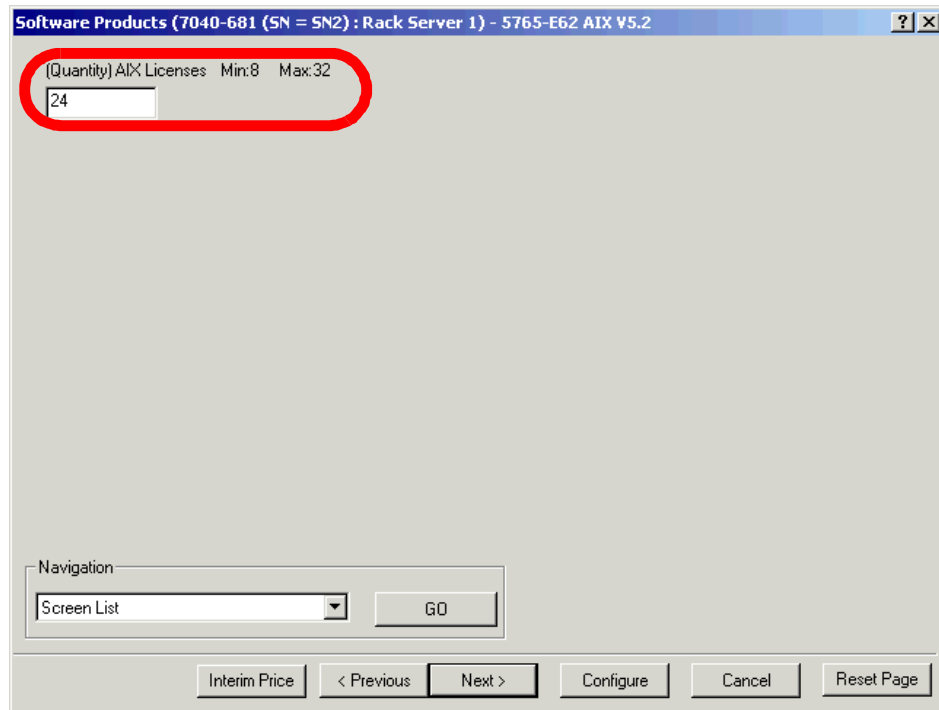

Figure 3-28 Changing the number of AIX licenses
6. In the Software wizard, click on the **Next >** button, until you are presented with the panel specifying the number of AIX licenses (see Figure 3-28). Add 16 licenses, and click **Configure**. The related error disappears from the Message view.